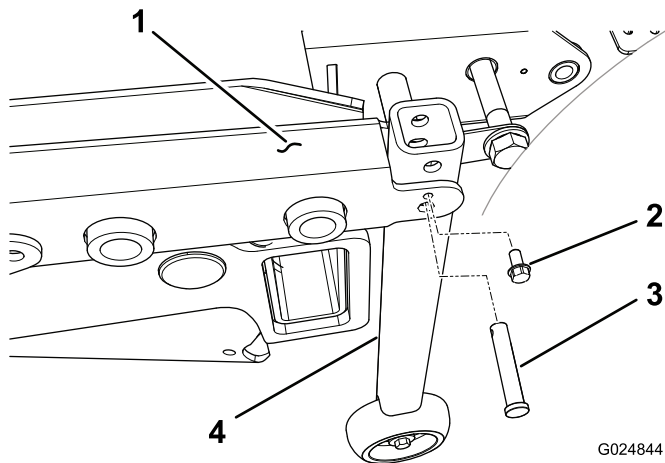

Figure 33
2. On traction units that have a serial number prior to 312999999, install the vertical tube support assembly to each rear corner of the deck frame with a clevis pin and a 1/4 inch self-tapping screw (Figure 33)